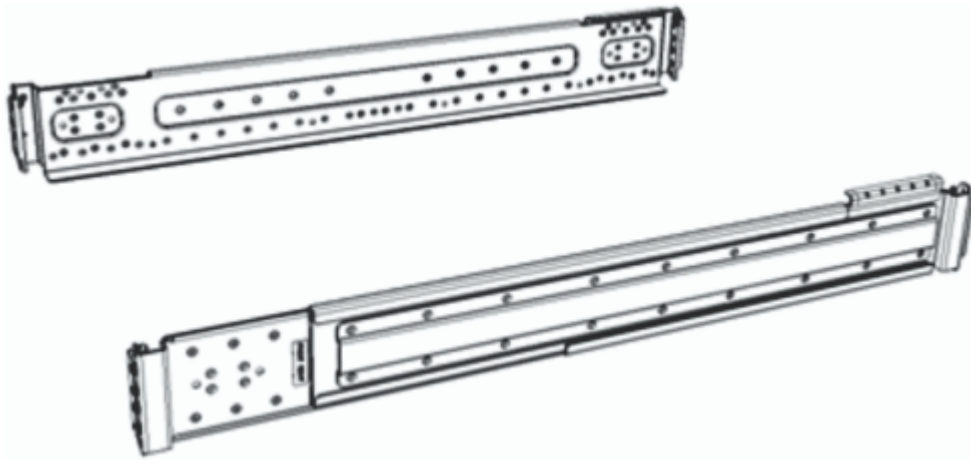

Figure 18. ESS 3000 system support rails
1. Locate the ESS 3000 system rails (Figure 18 on page 44).